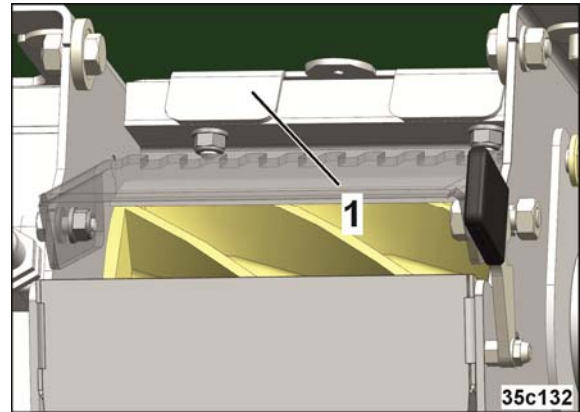

Fig. 70
2. Close the shutter (Fig. 70/1) if only the metering unit and not the front hopper is to be emptied
9. Pull the shutter (Fig. 70/1) out of the metering unit (see section "Installing/removing the metering roller", Seite 68) and secure with a linch pin.